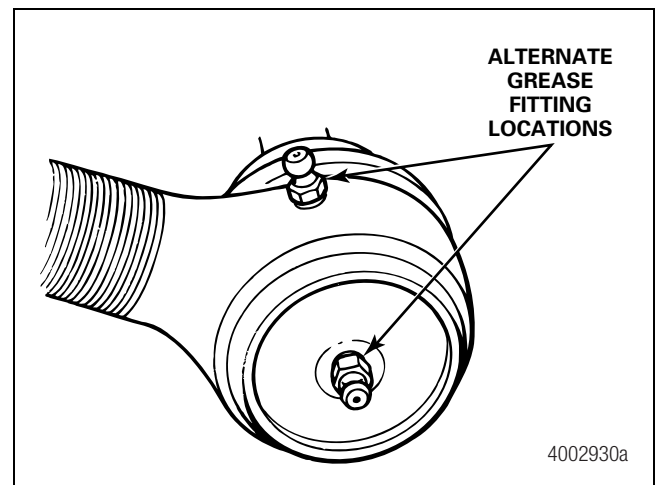

Figure 3.6
- **If the tie rod ends are non-greaseable:** Do not install a grease fitting. Figure 3.6.